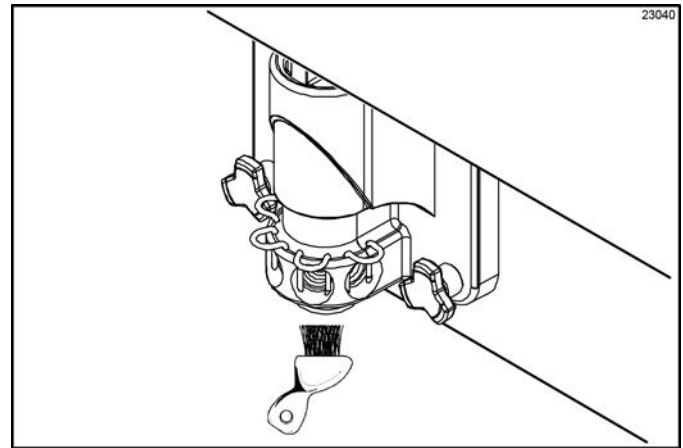

Figure 6-63
12. Return to the freezer with a small amount of cleaning solution. With a pail below the door spout, dip the door spout brush into the cleaning solution and brush clean the syrup ports in the freezer door, door spout, and bottom of the driven spinner, spinner blade, and syrup line fittings. (See Figure 6-63.)